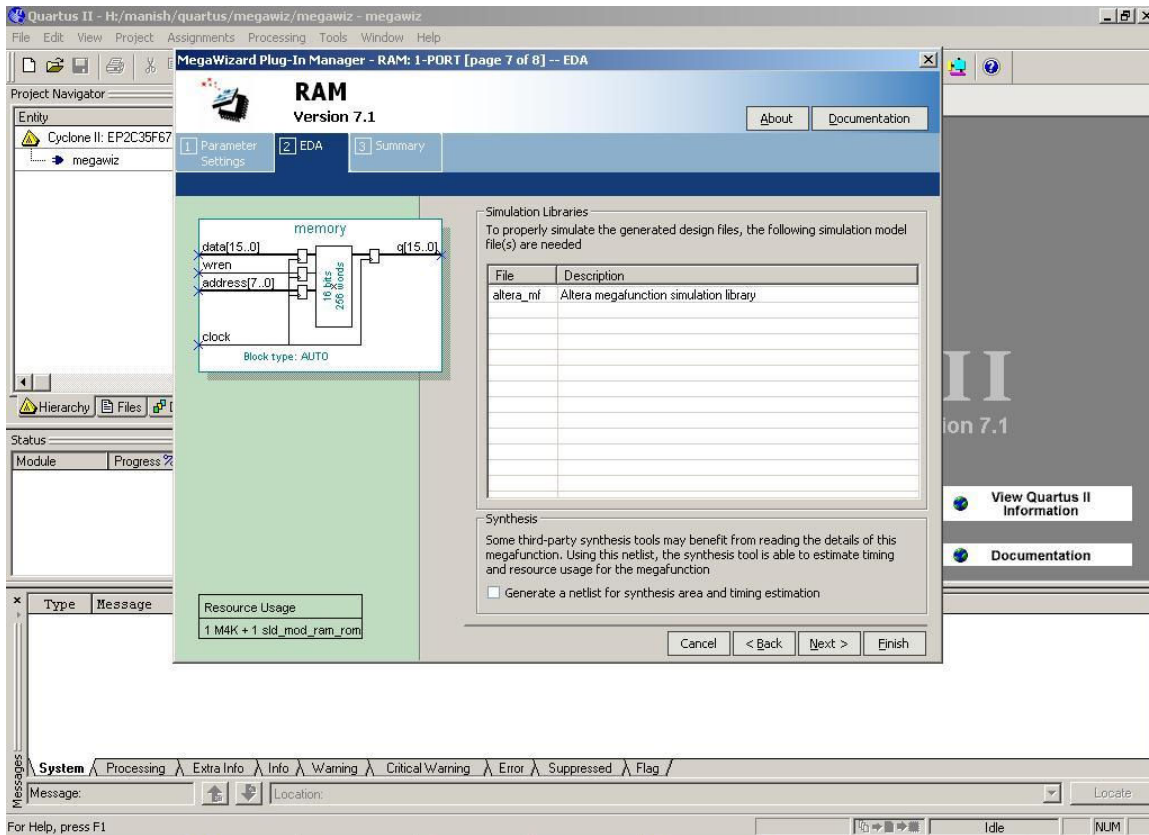

Fig. 6
6. Finally your .vhd file for RAM module will be created in your working directory. Select Next on page 7. (Fig. 6)